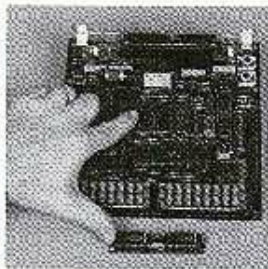

Figure 3-6
- d. Remove the Hi ROM chip (the chip on the left) from the main logic board and install it in the left connector on the SIMM card. See Figure 3-6. Make sure you install the ROM chip with its notch to the right (as indicated on the SIMM card).